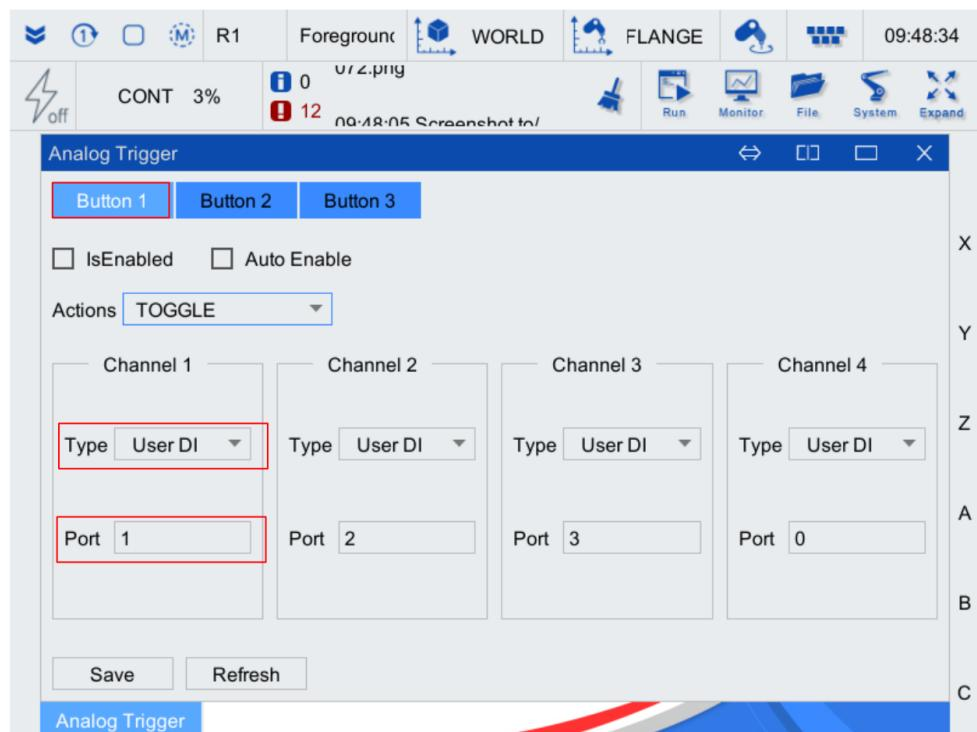

Figure 6-10 Simulation trigger configuration interface
Step2. In the pop-up [Analog Trigger] interface (as shown in Figure 6-10), select the button to be configured (such as button 1), select the type of DI for each channel as "User DI", and configure the [Port] to correspond one by one with the key port numbers configured in steps 3 to 5 of section 6.1.